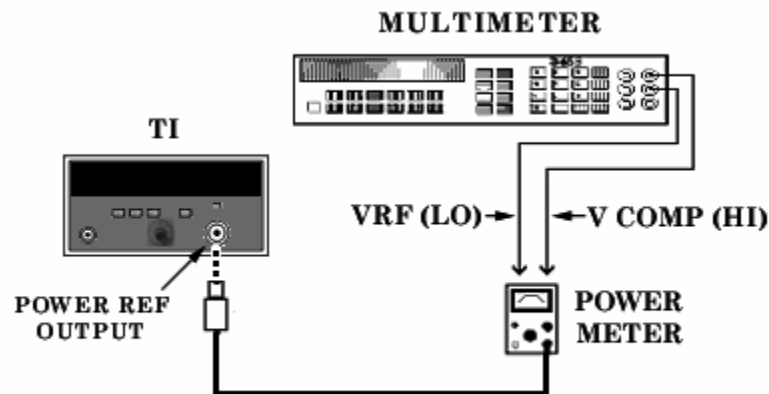

Figure 6. Power reference level - equipment setup.
(1) With power meter off, remove thermistor mount from interconnect cable. Adjust multimeter to measure resistance and connect between **VRF** connector on rear panel of power meter and pin 1 on thermistor mount end of power meter interconnect cable.
(2) Round off multimeter indication two decimal places and record this value as internal bridge resistance **R** of power meter (approximately 200  $\Omega$ ).
(3) Reconnect thermistor mount to power meter interconnect cable and connect equipment as shown in figure 6.